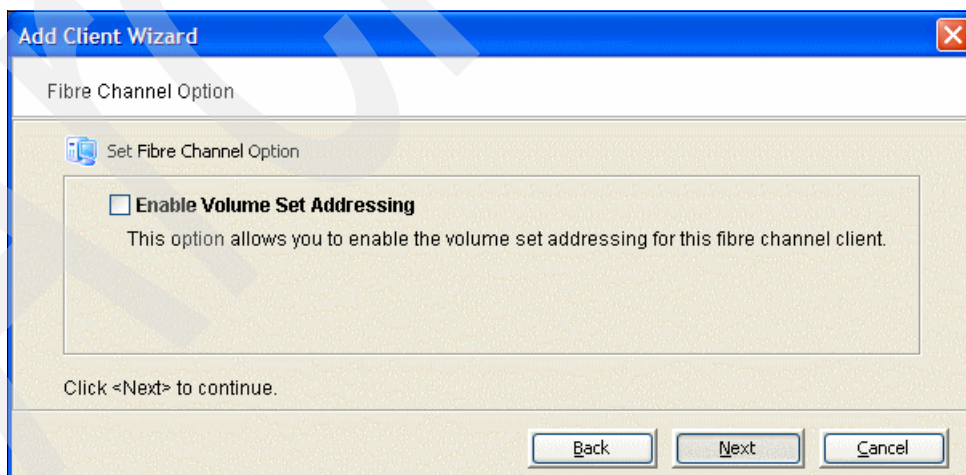

Figure 6-56 Add SAN clients: Enable Volume Set Addressing
- Volume Set Addressing (see Figure 6-56) might be required for particular Fibre Channel storage depending upon the storage system's requirements. For example, storage that is connected to an HP-UX host with an HP Fibre Channel adapter requires VSA addressing. Similarly, storage that was formerly connected to HP-UX hosts usually has the VSA option turned on. Click **Next**.